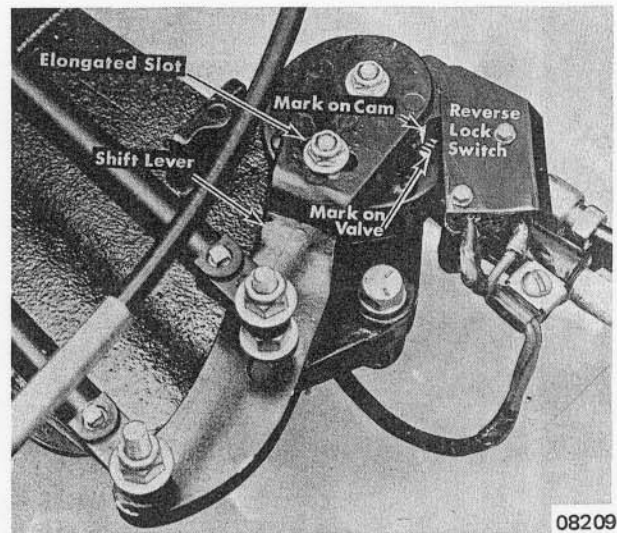

Figure 2. Location of Marks
2. Loosen 2 shift lever to reverse lock valve attaching nuts and move forward nut in direction required to line up raised triangular mark on cam with SECOND raised mark on reverse lock valve cover. (Figure 2) Tighten 2 shift lever attaching nuts.